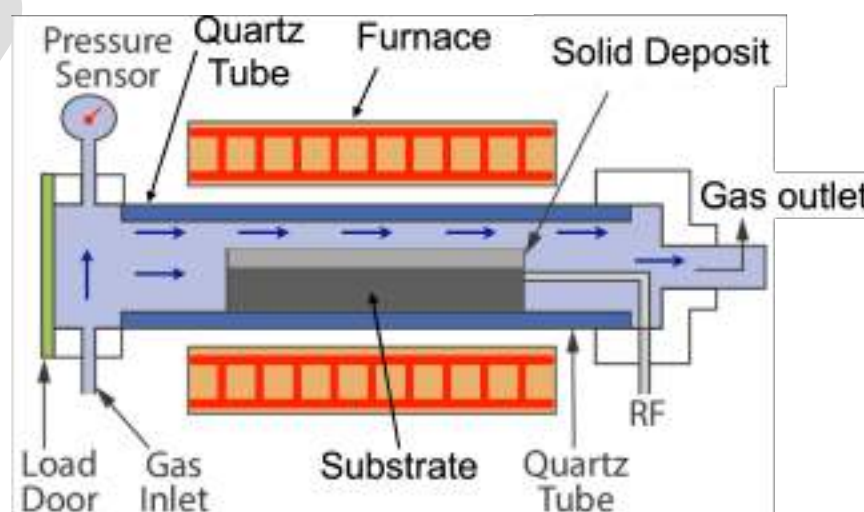

Fig. 27: Schematic of Chemical vapour deposition (CVD) system
- Since oxygen activity in the vapor can be precisely controlled during the deposition, no annealing in oxygen is needed to achieve superconductivity. A simplified concept diagram of CVD is shown as Fig. 27.